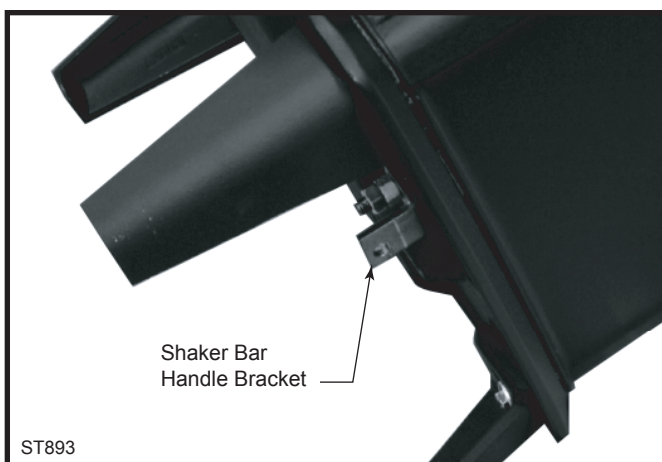

Fig. 15 Attach shaker bar handle bracket to right hand side of base of stove.
Attach the shaker bar (riddling grate) handle bracket to the threaded spindle on the right hand side of the base of the stove using the two (2) locking nuts provided in the hardware bag, (Fig. 15)